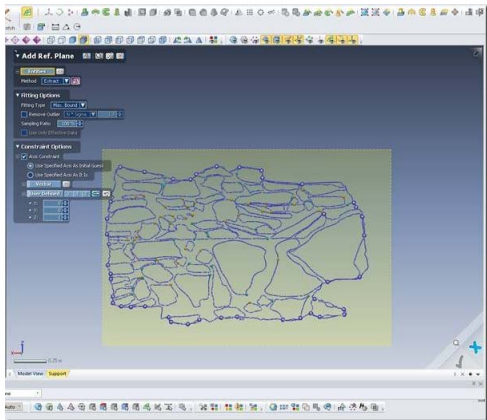

Fig. 5: Select options within the Add. Ref Plane menu.
e. Under **Constraint Options** select **Axis Constraint** and **Use Specified Axis As Initial Guess**. Then Select **User Defined** and choose the axis parallel to the long side of the reference plane you are creating. In the example in Fig. 5 this is the **x-axis**.